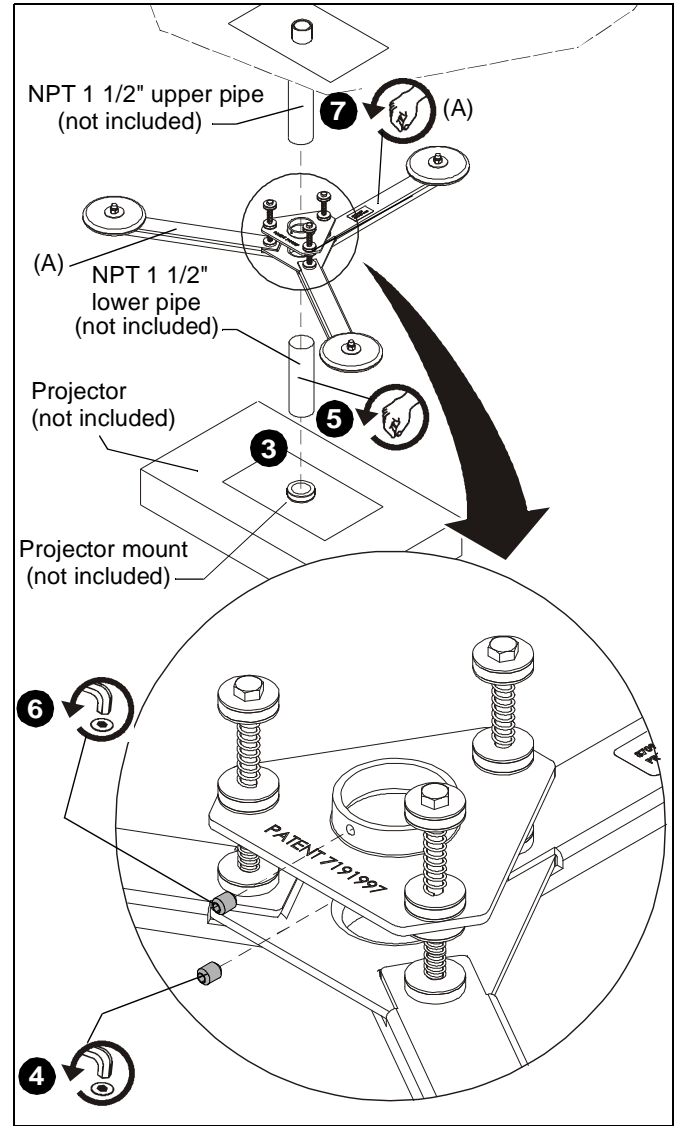

Figure 6
2. Uninstall projector from projector mount. (See Figure 6)
3. Uninstall projector mount from NPT 1 1/2" lower mounting pipe following the instructions provided with the projector mount. (See Figure 6)
4. Loosen 5/16-18 x 3/8" socket head set screw securing NPT 1 1/2" lower mounting pipe to mount bottom. (See Figure 6)
5. Uninstall NPT 1 1/2" lower mounting pipe from mount bottom by turning NPT 1 1/2" lower mounting pipe counterclockwise. (See Figure 6)
6. Loosen 5/16-18 x 3/8" socket head set screw (C) securing mount top (A) to NPT 1 1/2" upper mounting pipe. (See Figure 6)
7. Uninstall CMA347 from NPT 1 1/2" upper mounting pipe by turning mount top (A) counterclockwise. (See Figure 6)